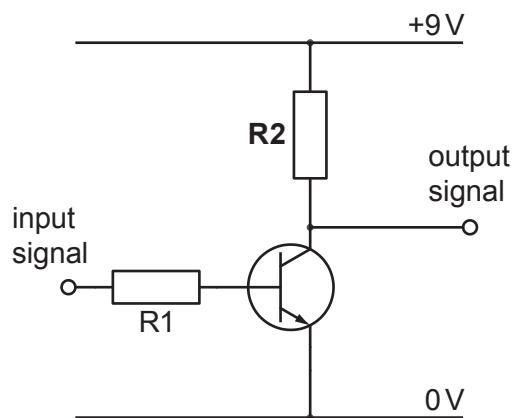

Fig. 12.1
- 12 (a) Fig. 12.1 shows an NPN transistor used as a switch.